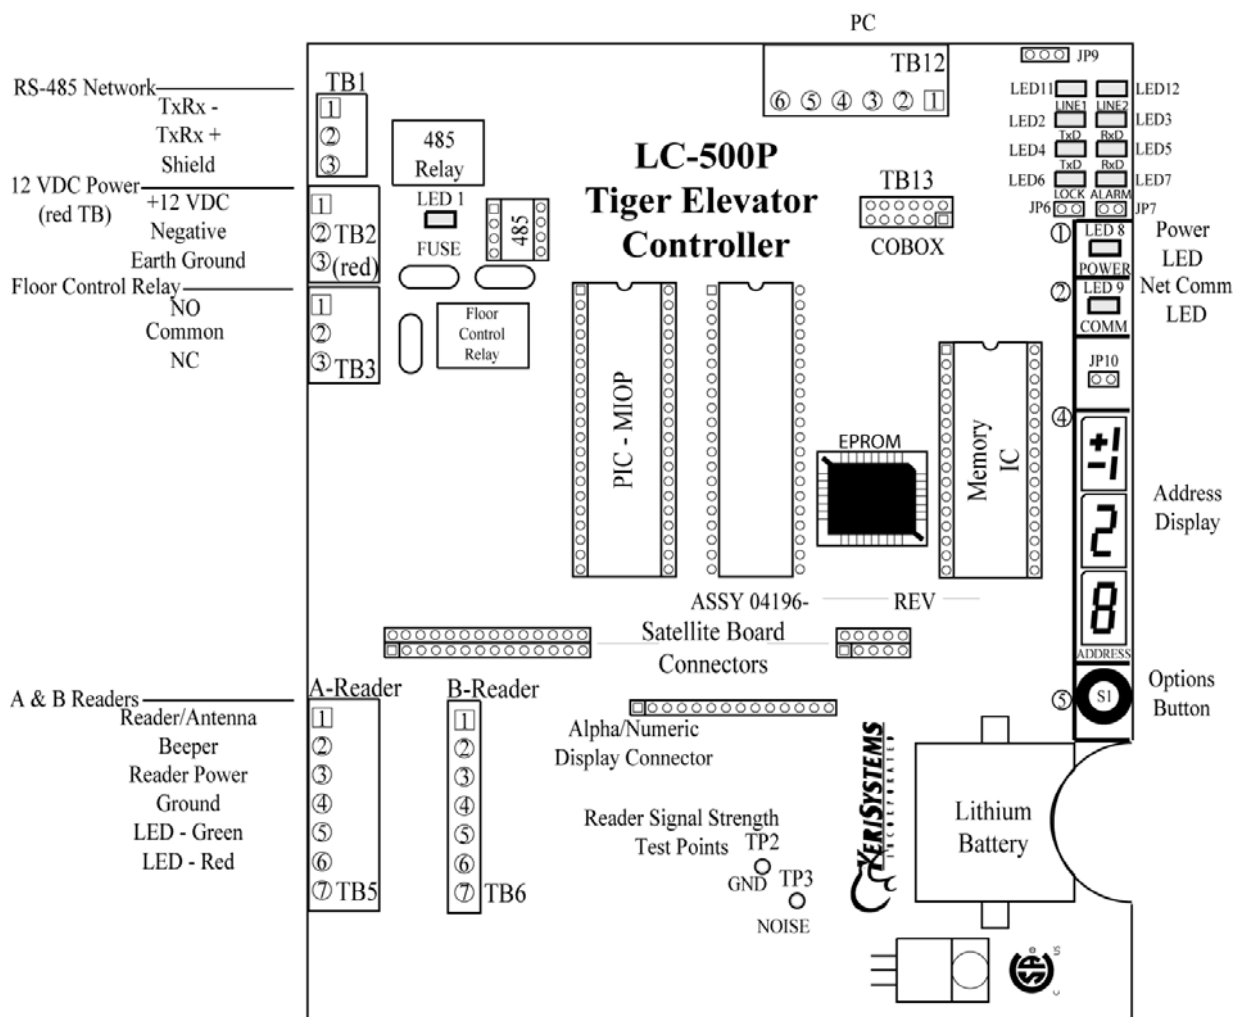
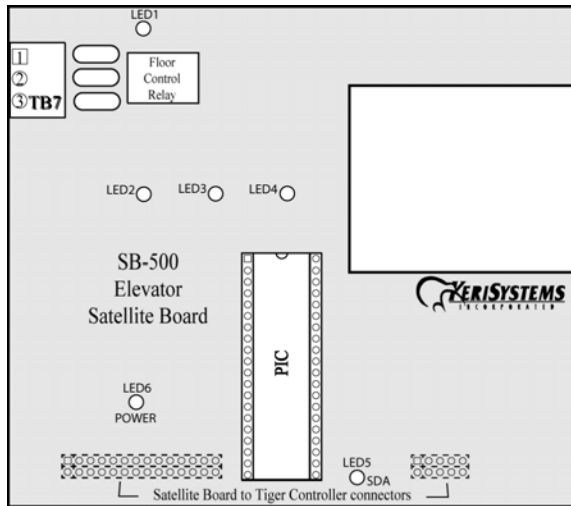

Figure 1: The LC-500P Elevator Controller
Figure 2: The SB-500 Satellite Board
- Refer to Figure 1 and Figure 2 on page 8 when reviewing the information throughout Section 5.2 beginning on page 10.